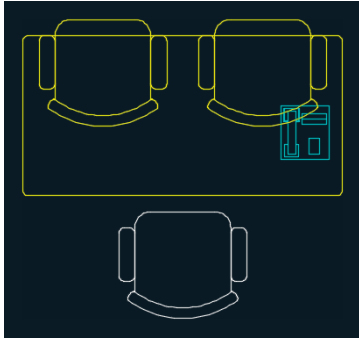

FIGURE 7.22 Redefining the chair block causes the chairs to lose their original orientation.
- Select the Convert To Block radio button in the Objects section of the Block Definition dialog box and click OK. Click Redefine Block in the Block – Redefine Block dialog box that appears. Figure 7.22 shows the result: All three chair block references are updated.